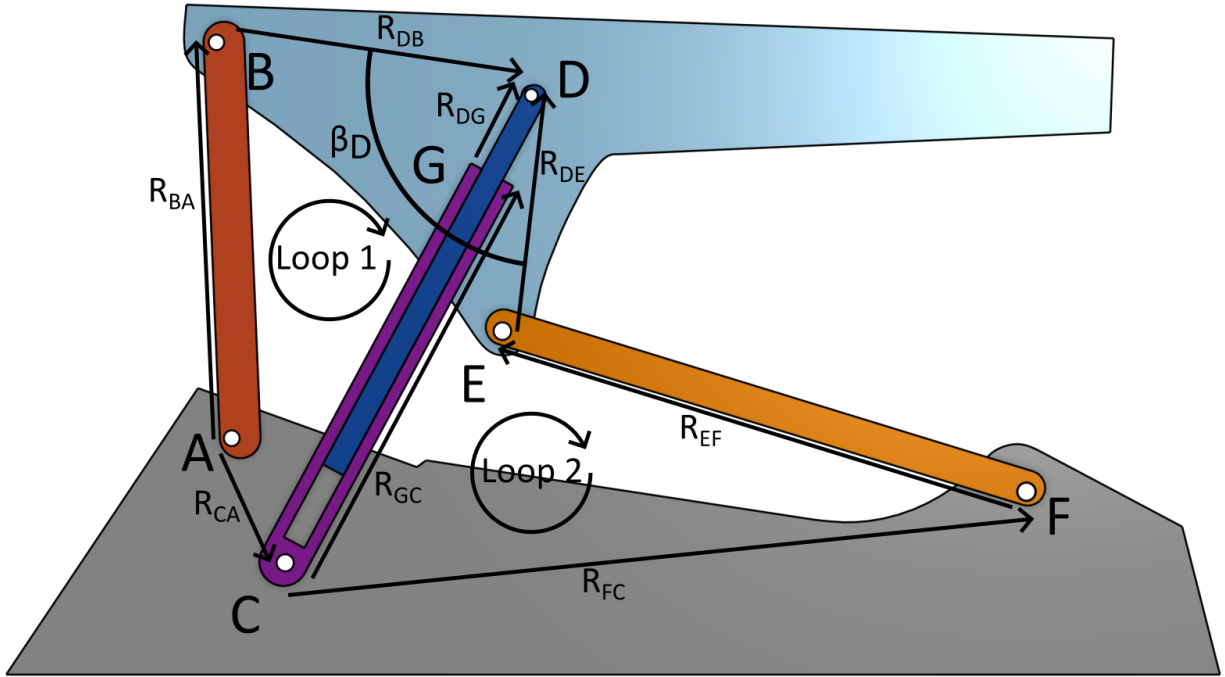

Figure 4: Diagram showing vector for Multiloop Equations
Mobility allows us to determine the degrees of freedom of a linkage, but usually we also need to determine the positions and angles of the individual links. To do this, we can use a method called Multiloop closure. It consists of drawing vectors between joints of each link, then writing equation summing loops of vectors, because the RHS of the equation has to equal zero. This is because the last vector ends where the first vector starts. These vector equations can then be turned into their scalar forms, which can be combined with equations relating rigid geometry of the links, providing a system of equations to solve. When done correctly, the number of unknowns minus the number of scalar and rigid geometry equations should equal the mobility. For the examined linkage, the vectors and loops are labeled as shown in Figure 4. The vector equations are shown below as eqs. (3) and (4).